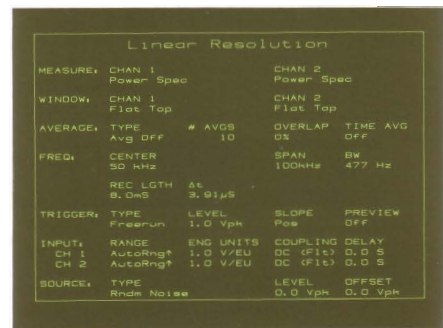

Figure 5-1
**1. Special Preset** Press the green **PRESET** key. Select the **P SPEC LINRES** softkey to activate the preset dc-to-100 kHz power spectrum measurement. The state is shown in Figure 5-1.